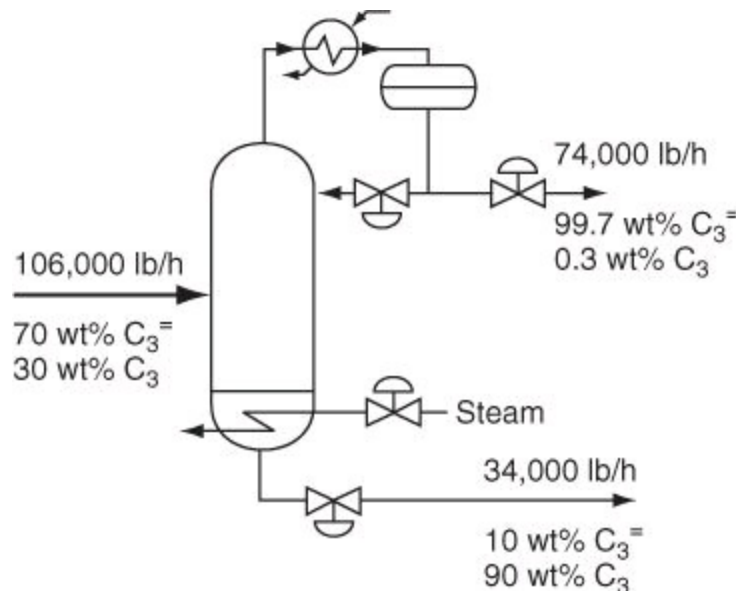

Figure P3.1.20
****3.1.20.** Distillation columns are used to separate light boiling components from heavier boiling components and make up over 95% of the separation systems for the chemical process industries. A commonly used distillation column is a propylene-propane splitter. The overhead product from this column is used as a feedstock for the production of polypropylene, which is the largest quantity of plastic produced worldwide. Figure P3.1.20 shows a diagram of a propylene-propane splitter (C_3 refers to propane and $C_3^=$ refers to propylene). The steam is used to provide energy and is not involved in the process material balance. Assume that the composition and flow rates listed on this diagram came from process measurements. Determine if the overall material balance is satisfied for this system. Evaluate the component material balances as well. What can you conclude?